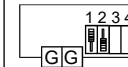

Figure 2 Switch setting for internal sensor.
- Terminals G and G = External sensor and setpoint, not polarity sensitive (*Figure 2 -Figure 6*)